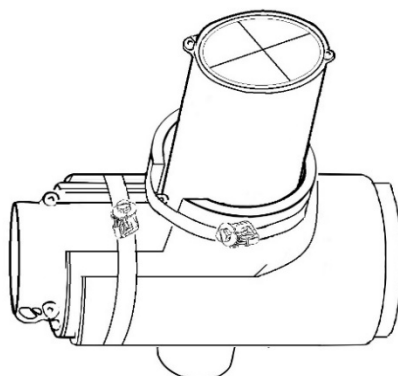

Figure 4. Densitometer mount fastened in place using hose clamps
- 9 Check that the PVC tee socket fits snugly inside the PVC faucet tee and that the densitometer fits inside the PVC tee socket (see Figure 4) Some filing may be required.